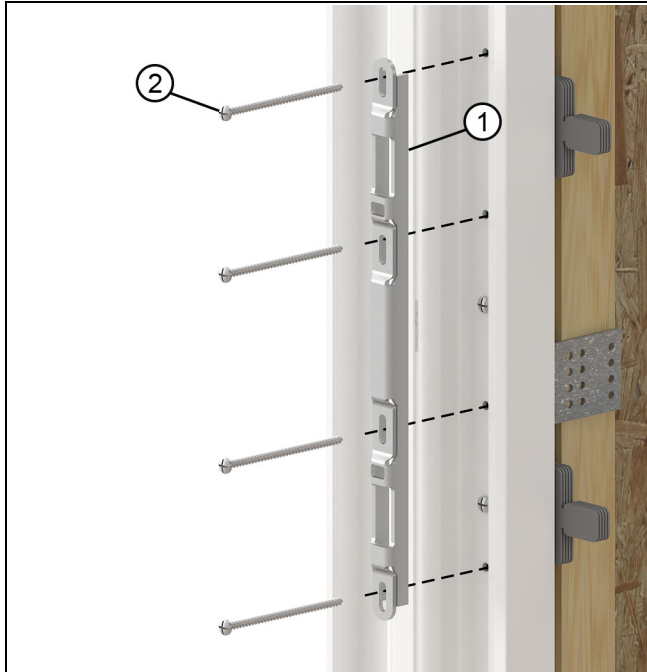

Figure 18
1. Install the strike with four #8 x 3" pan head screws (#8 x 1" for OXO, and #8 x 2 for OXXO configurations) provided. Position strike to center screws in adjustment slots and tighten. Adjust the strike vertically for proper latch engagement if needed. See Figure 18.